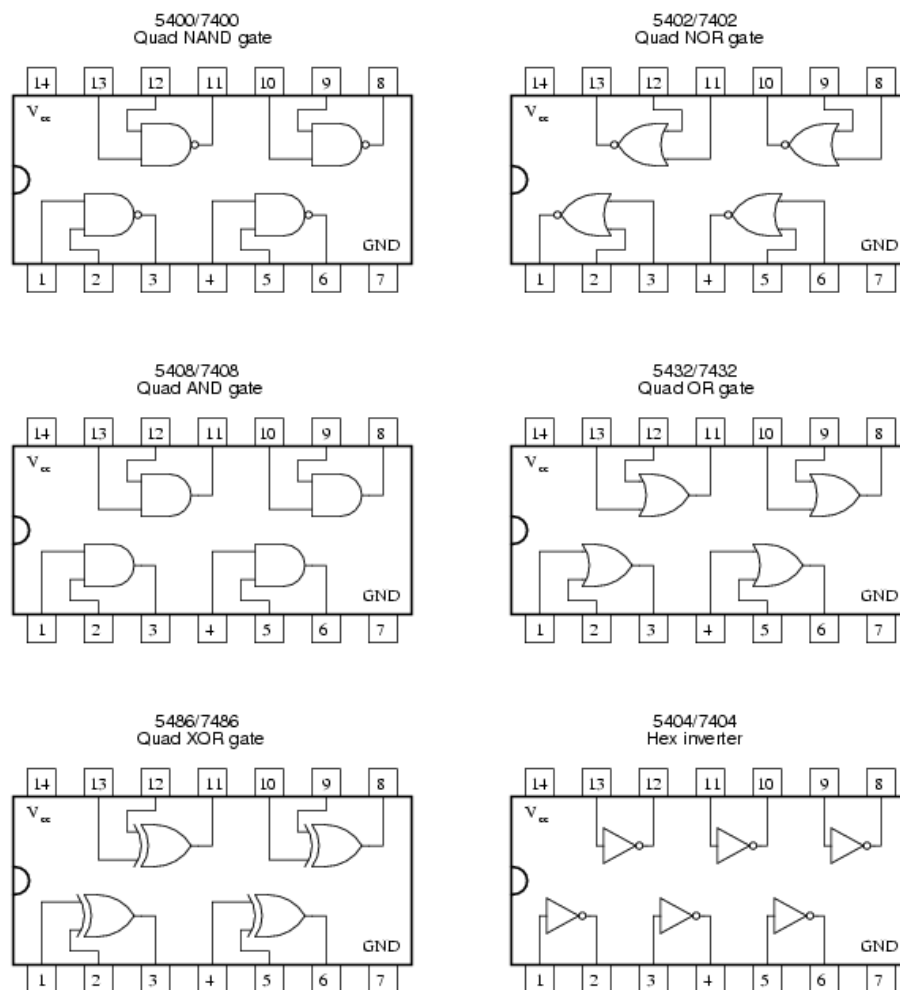

Figure 4.1: DIGITAL GATES IN IC PACKAGES.
3) Design and implement the following circuit using the gates on the chips as shown in Figure 4.1(.
**Note:** There are several logic ICs numbered from 74xx onwards with letters (xx) in the middle of the number to indicate the type of gate as shown in Figure 4.1. Figure 4.1 shows some digital gates with identification numbers and pin assignments.
2. Place each chip shown in Figure 4.1 on the breadboard in such a way that its pins are not short-circuited. Make sure power is off while you place IC's and connect wires.